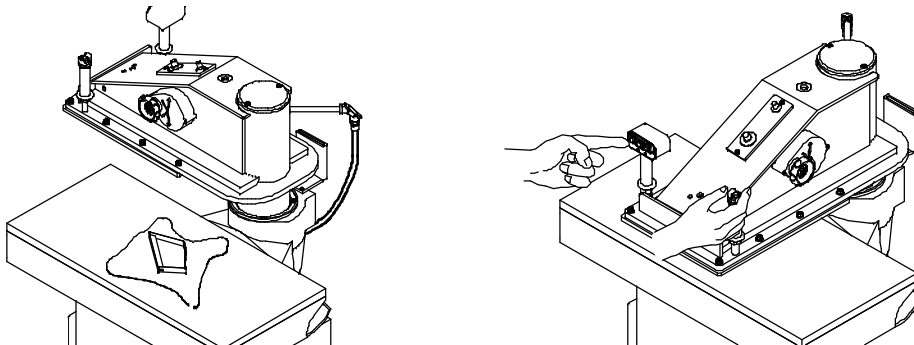

Fig. 16
- lay the material on the cutting table and place the cutting-die on it (left Fig. 16)
- after adjusting the stroke through the hanwheel (we suggest a stroke of 7÷8 mm), **simultaneously** press the push-button on the right handle and the most suitable one among those of the left handle (right Fig. 16) compared with the linear development of the cutting-die, by acting also on the potentiometers connected to the push-buttons No. 1 and No.3, if necessary. In this way you can get the maximum cutting accuracy with the minimum cutting-board wear.